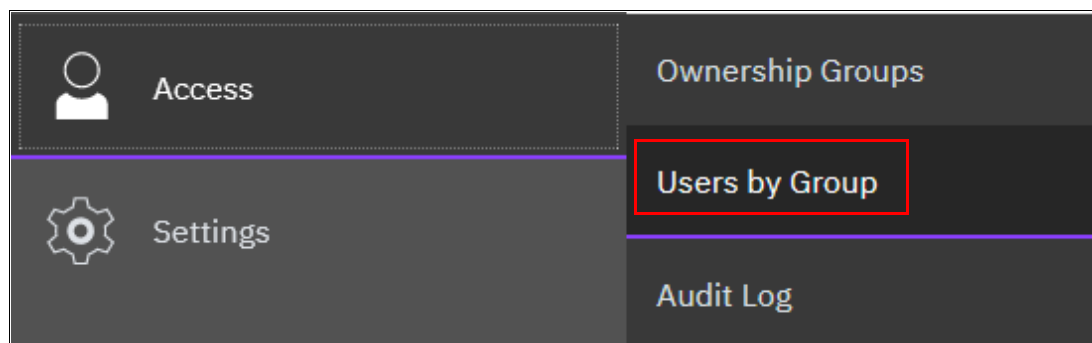

Figure 4-58 Accessing Users by Group
1. Select **Access** → **Users by Group**, as shown in Figure 4-58.